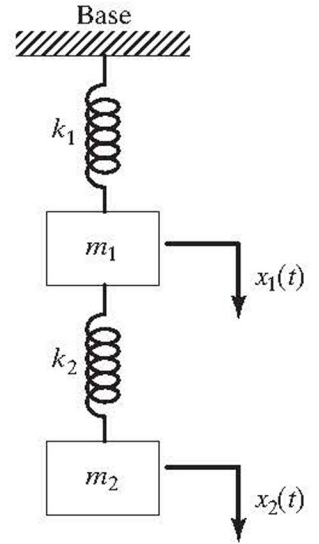

FIGURE 5.24
**5.5** Find the natural frequencies of the system shown in Fig. 5.24, with  $m_1 = m$ ,  $m_2 = 2m$ ,  $k_1 = k$ , and  $k_2 = 2k$ . Determine the response of the system when  $k = 1000 \text{ N/m}$ ,  $m = 20 \text{ kg}$ , and the initial values of the displacements of the masses  $m_1$  and  $m_2$  are 1 and  $-1$ , respectively.